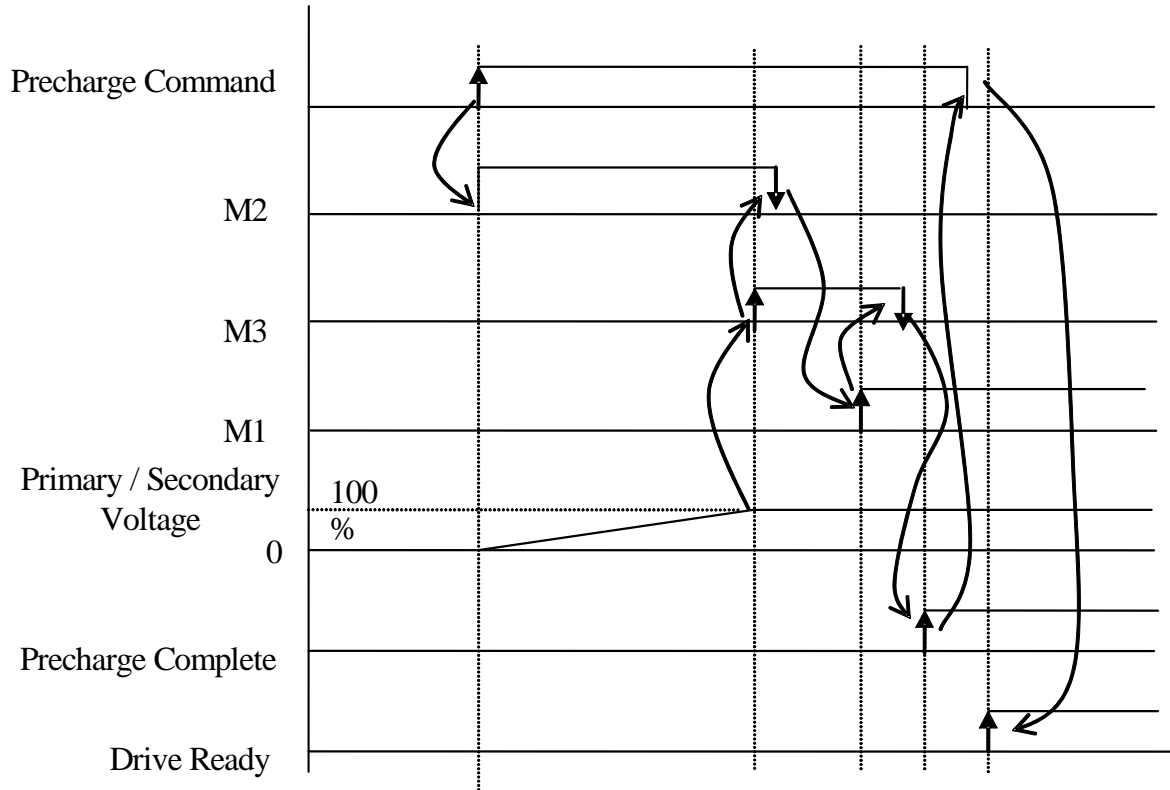

Figure 5-33: Type 1 Precharge
8. The Precharge command from the customer must be removed after Precharge Complete is set and when VFD Ready (not shown in Figure 5-33) is issued. Failure to remove the command will result in a Precharge timeout Precharge Fault.